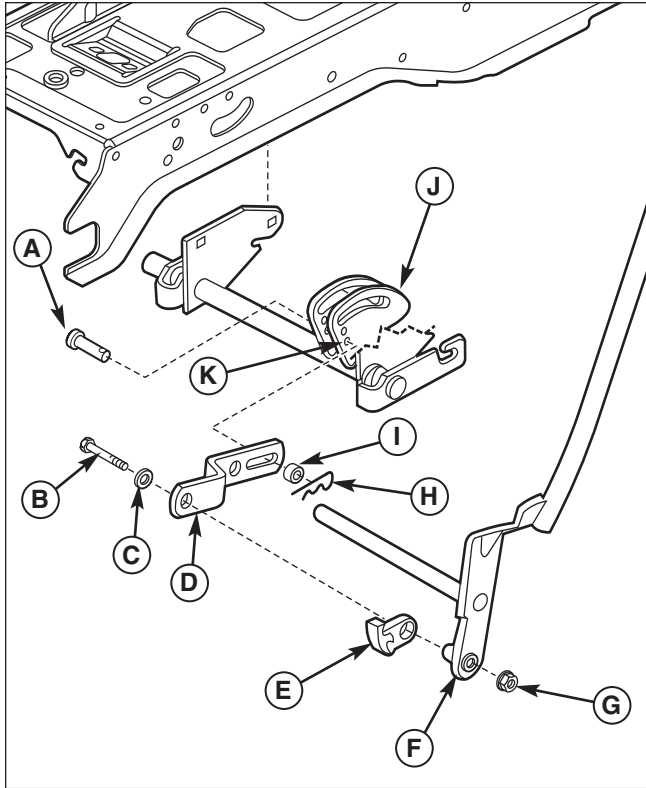
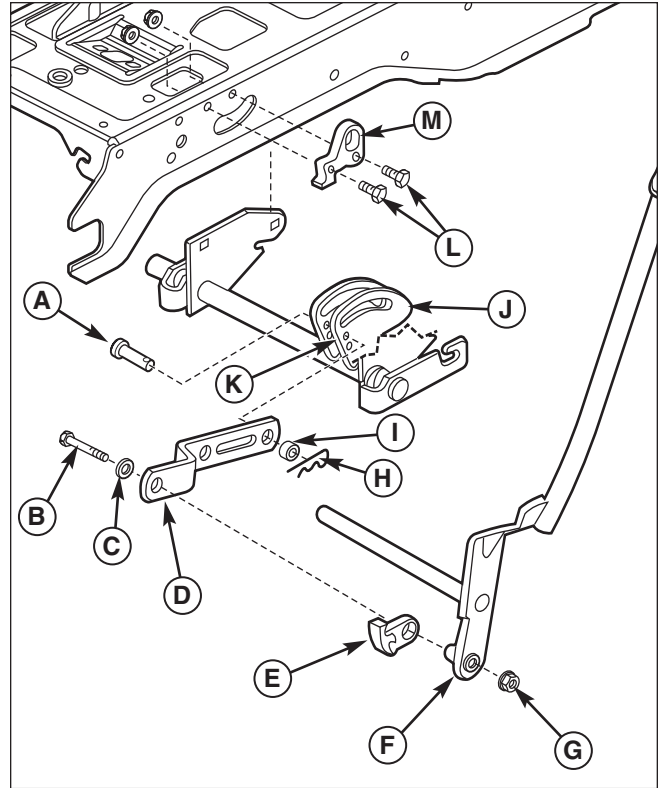

Figure 3. Lift Components - Mowing
Figure 4. Lift Components - Tilling
3. Remove the pin (A, Figure 3) securing the lift link (D).
4. Remove the pivot capscrew (B) securing the lift link (D) to the lift cam (J).
5. Check the front lock plate capscrew (L, Figure 4). If the bolt is grade 5, replace with the 5/16-18 x 1 grade 8 bolt and whizlock nut provided.
6. Replace the lift link (D, Figure 3) with the new one provided (D, Figure 4). Be sure to reinstall the lift assist spring (not shown) in its original orientation.
7. Install the clevis pin (A, Figure 4) in the upper tiller hole (K) in the lift cam, through the rear hole in the lift link (D), through the spacer (I), and secure with the hair pin clip (H).